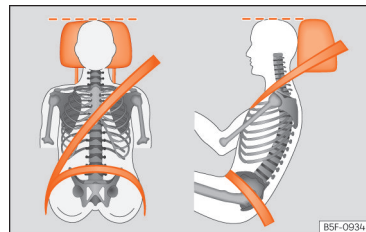

Fig. 21 Correct belt web and headrest positions
your head and under no circumstances below eye level. Keep the back of your neck as close as possible to the headrest »» Fig. 21.
- Adjust the seat lengthwise so that you can fully step on the pedals with your knees slightly bent and there is a distance between the knee area and the instrument panel of at least 10 cm (4 inches) »» Fig. 21.